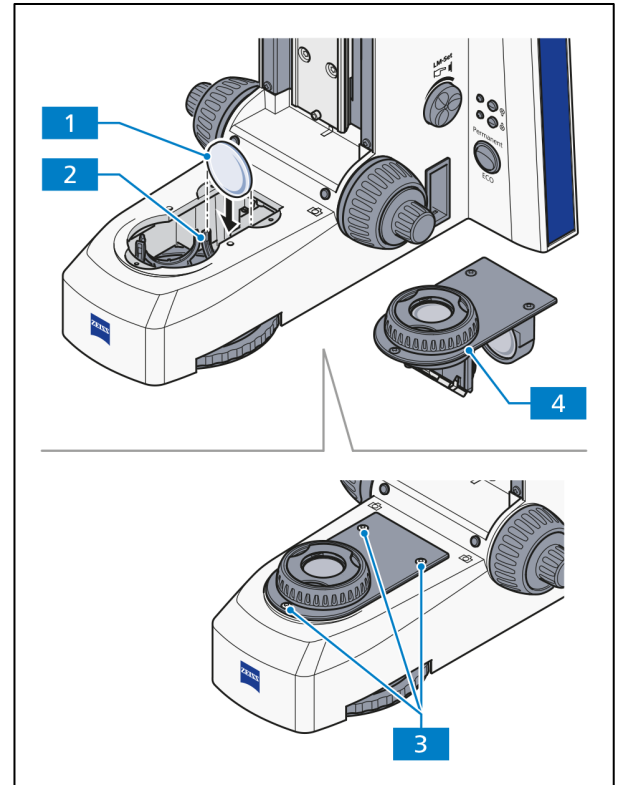

Fig. 3-52 Changing the filter in the filter wheel transmitted light
- Unscrew three screws (Fig. 3-52/3) of the field diaphragm socket (Fig. 3-52/4) and pull the socket out of the stand base.
- If necessary, pull the filter to be changed (Fig. 3-52/1) out of the corresponding position of the filter wheel (Fig. 3-52/2).